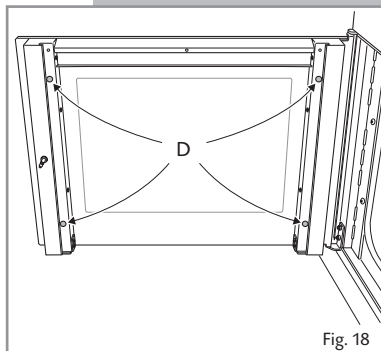

Fig. 18
- Check that the four rubber pads are in place (**D** in Fig. 18).